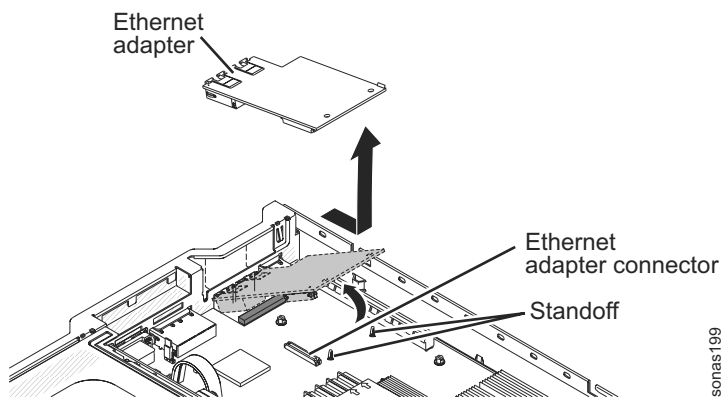

Figure 12. Removing the Ethernet adapter
6. Grasp the Ethernet adapter and disengage it from the standoffs and the connector on the system board; then, slide the Ethernet adapter out of the port openings on the rear of the chassis and remove it from the server. See Figure 12.